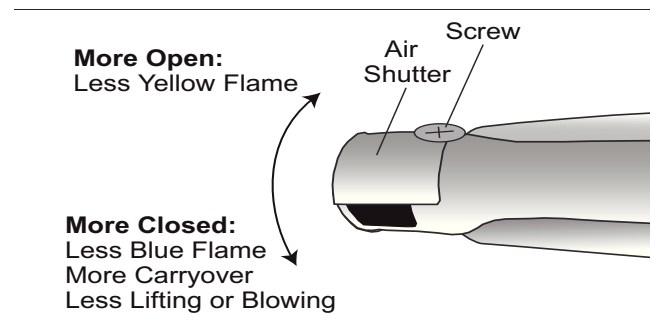

FIGURE 29: AIR SHUTTER ADJUSTMENT (IF NECESSARY)
Tube-style gas burners used in THERMADOR® appliances have air shutter systems which are similar to the illustration in *Figure 29*, and can be adjusted using the following method (unless adjustment is not recommended). It is necessary to remove the burner from the appliance in order to perform air-shutter adjustments.
- Adjust the shutter to more-closed position if the flame is lifting or blowing, or is not carrying over. Adjust the shutter to more-open position if the flame is too yellow (*Figure 29*).